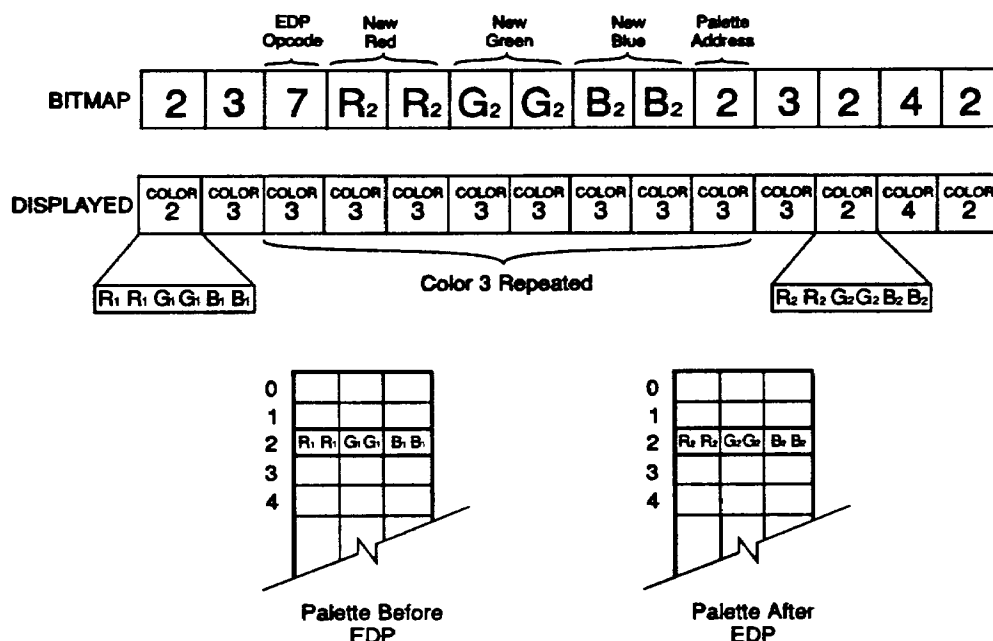

Figure 10. EDP Opcode in the Bitmap
In 4-bits-per-pixel graphics, two pixels are needed to specify one 8-bit color value; therefore, in the Advanced-4 encoding, an EDP sequence requires eight pixels: one for the opcode (7), six for the new color (two each for red, green and blue), and one for the palette address. Figure 10 shows the EDP opcode sequence.